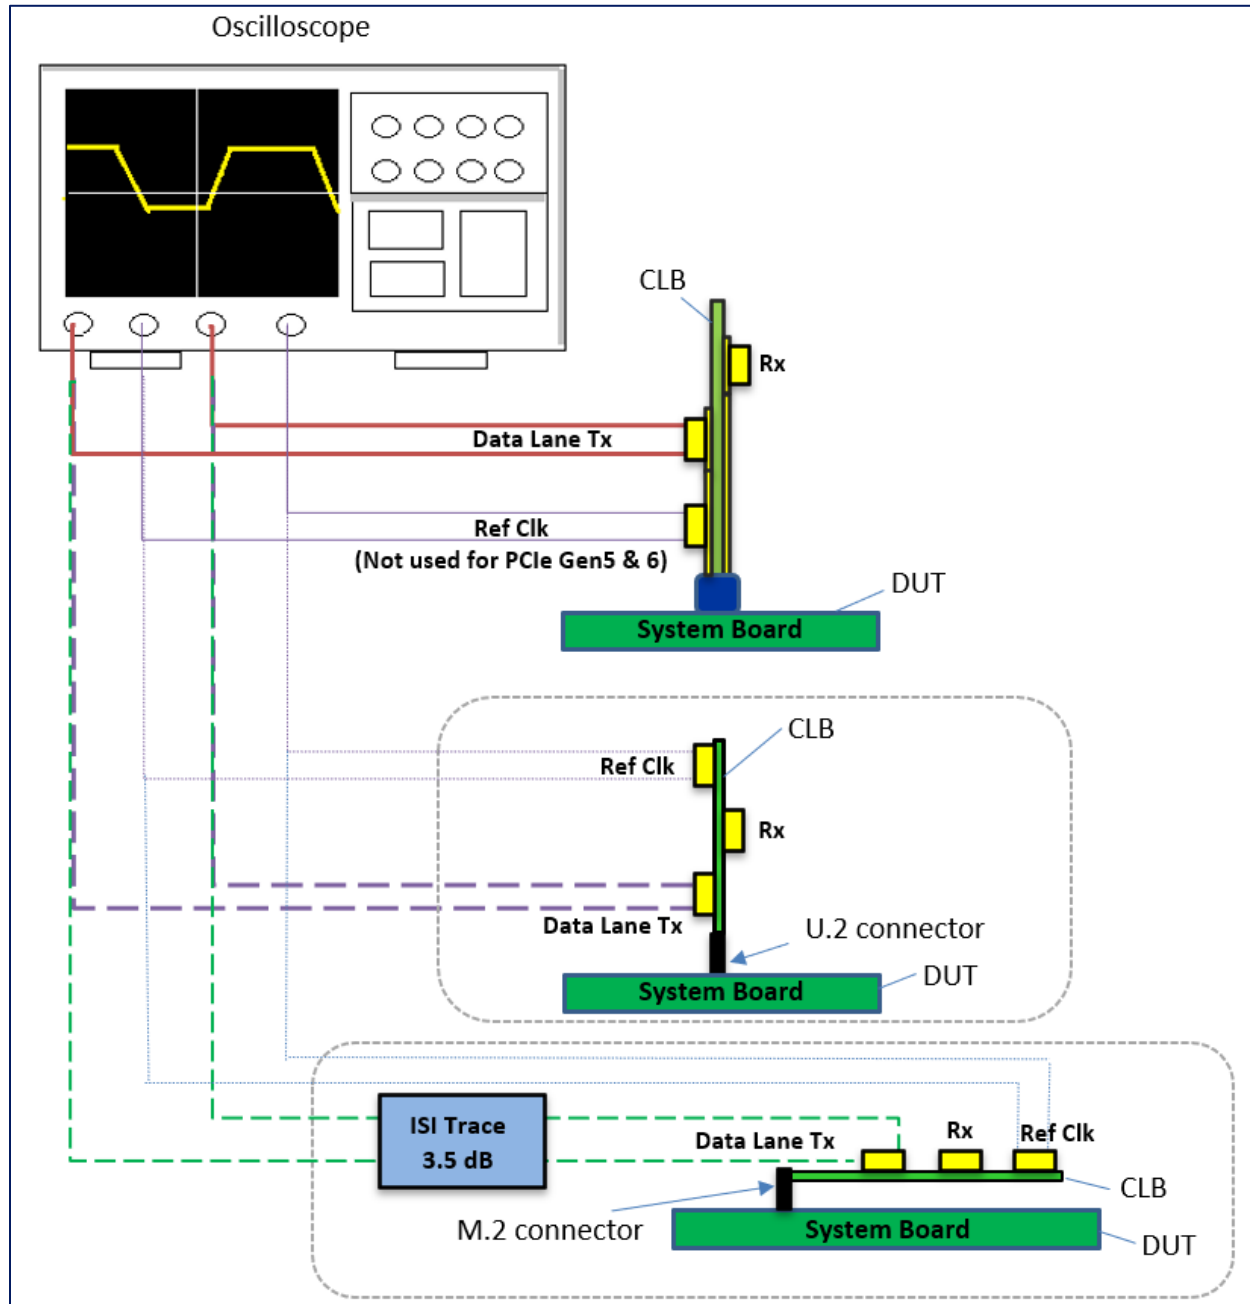

FIGURE 22. CONCEPTUAL PCIe SYSTEM BOARD TX TEST SETUP DIAGRAM USING MANUAL COMPLIANCE TOGGLE (WITHOUT RF SWITCH)
1. Using the same connections from Figure 22, connect Tx+ and Tx- Data Lanes from the CLB to the RF Switch Inputs.